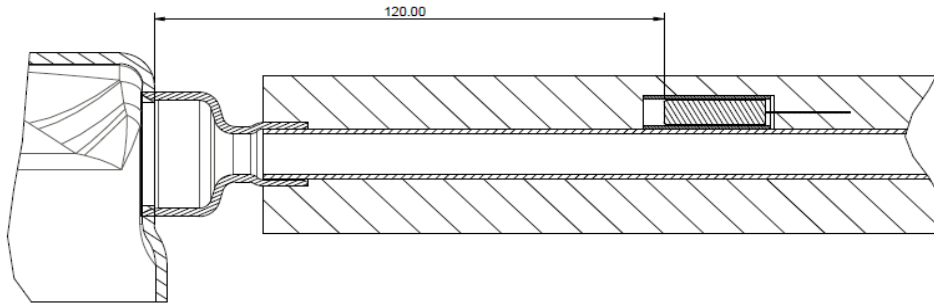

Figure 14: Discharge temperature sensor mounting
- For best response and to reduce the impact of ambient temperature, the sensor must be insulated and placed in a sleeve brazed on the discharge pipe – see **Figure 14**.